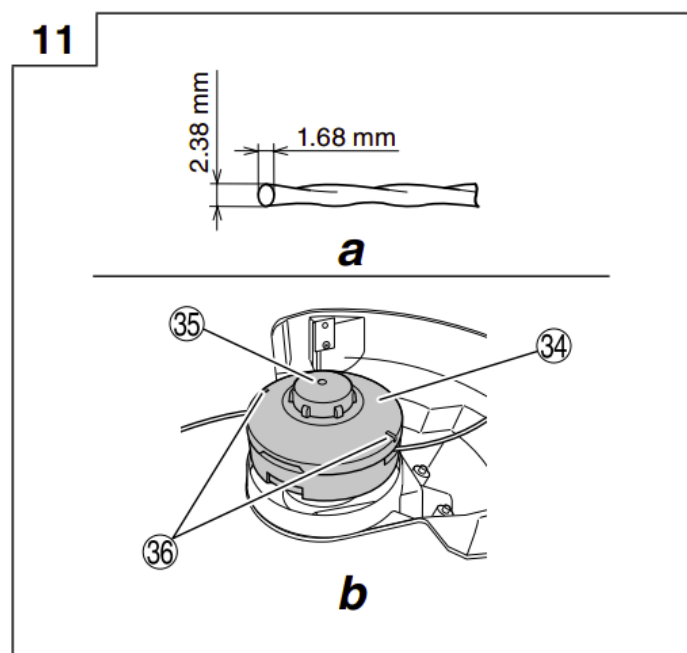

Fig. 11
Cord diameter: Fig. 11-a
If the wear limit mark on the case is no longer visible or there is a hole in the bottom of the button, change the new parts immediately. (Fig. 11-b)
1. Prepare 4 m of genuine nylon line in Fig. 11-a. (Code No. 335235)